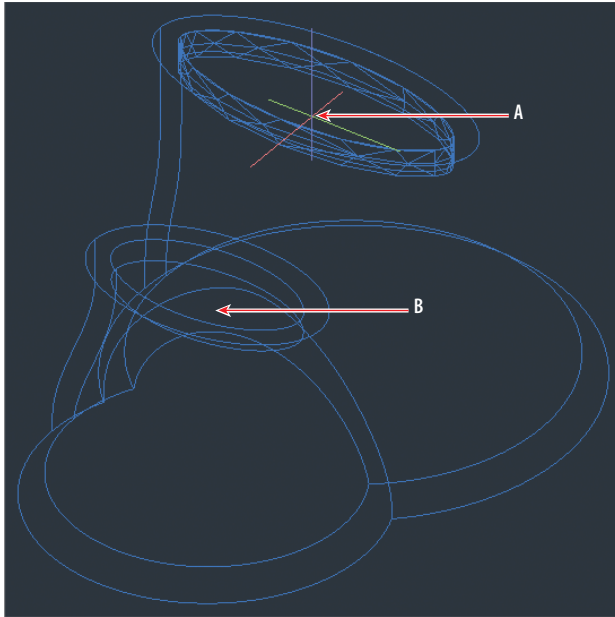

FIGURE 17.27 Using Presspull to remove the tops of the ventilation towers
6. Select the Presspull tool on the Solid panel. Click point A in Figure 17.27, keep the cursor above the towers, type **-1**, and press Enter. Click point B, type **-1**, and press Enter twice.